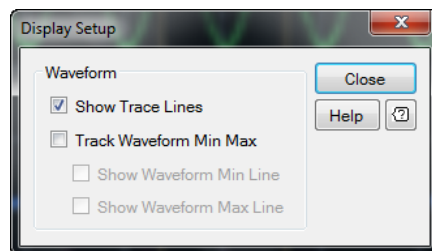

Figure 2-152 Display Setup dialog
- 2 The Display Setup dialog is displayed as shown in Figure 2-152.